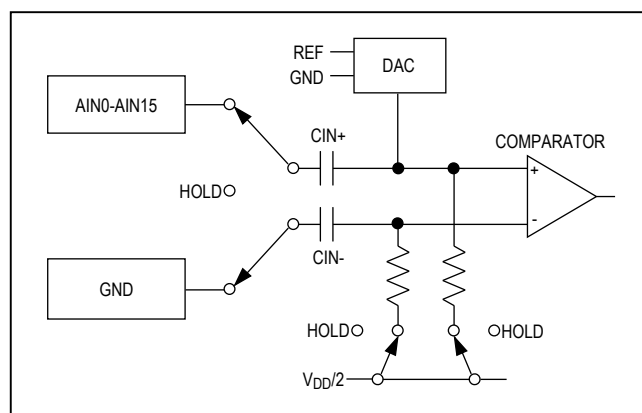

Figure 3. Equivalent Input Circuit
**Note 5:** See Figure 3 (Equivalent Input Circuit) and the Sampling Error vs. Source Impedance curve in the *Typical Operating Characteristics* section.
The single-ended analog input conversion modes can be configured by writing to the setup register (see Table 3). Single-ended conversions are internally referenced to GND (see Figure 3).
The equivalent circuit of Figure 3 shows the MAX11626–MAX11629/MAX11632/MAX11633's input architecture. In track mode, a positive input capacitor is connected to AIN0–AIN15. A negative input capacitor is connected to GND. For external T/H timing, use clock mode 01. After the T/H enters hold mode, the difference between the sampled positive and negative input voltages is converted. The time required for the T/H to acquire an input signal is determined by how quickly its input capacitance is charged. If the input signal's source impedance is high, the required acquisition time lengthens. The acquisition time,  $t_{ACQ}$ , is the maximum time needed for a signal to be acquired, plus the power-up time. It is calculated by the following equation: